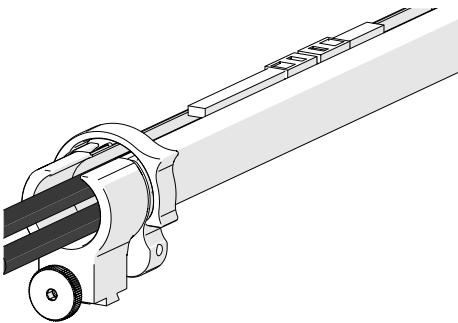

Fig. 79 - Zip opposite end
3. Once the cable is placed the entire length of the sleeving, bring the zipper from the sleeving's opposite end, meeting at any point in the middle (Fig. 79).